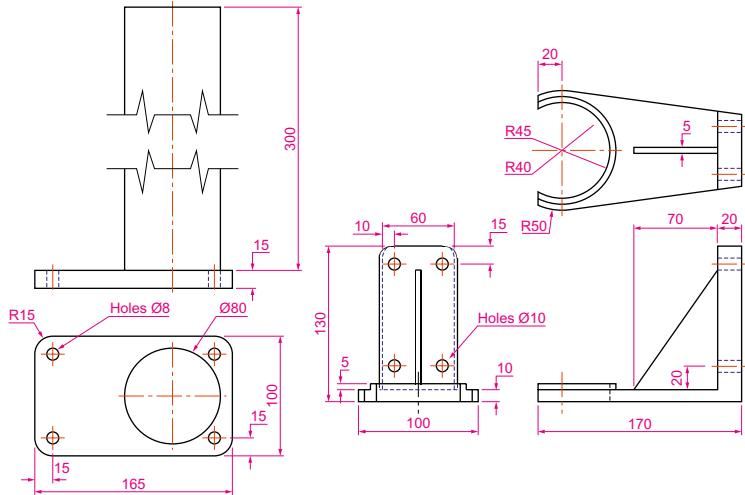
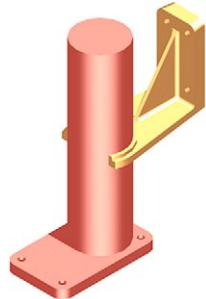

Fig. 15.28 Second example – **Rendering** – orthographic projection
Fig. 15.29 Second example – **Rendering**
### First example – Rendering (Fig. 15.28)
5. There are several methods by which **Distant** lights can be called. By selecting **Default Distant Light** from the **Generic Lights** palette (Fig. 15.29), with a *click* on the **Distant** icon in the **Render/Lights** panel, by *entering distantlight* at the command line.
4. Render the model (Fig. 15.28) using the **Render Region** tool from the **Render/Render** panel and if now satisfied save to a suitable file name (Fig. 15.29).
### Second example – Rendering a 3D model (Fig. 15.29)
1. Construct 3D models of the two parts of the stand and support given in the projections (Fig. 15.28) with the two parts assembled together.
Fig. 15.28 shows the resulting rendering.